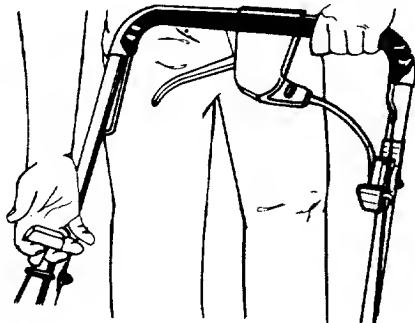

FIGURE 5.
3. Standing behind the unit, depress the blade control handle and hold it against the upper handle as shown. See figure 5.